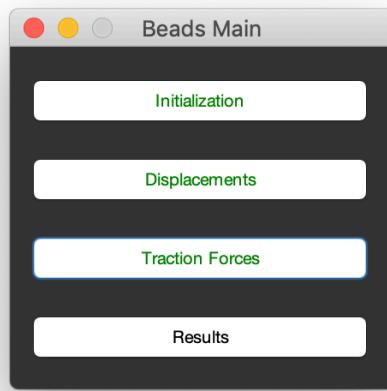
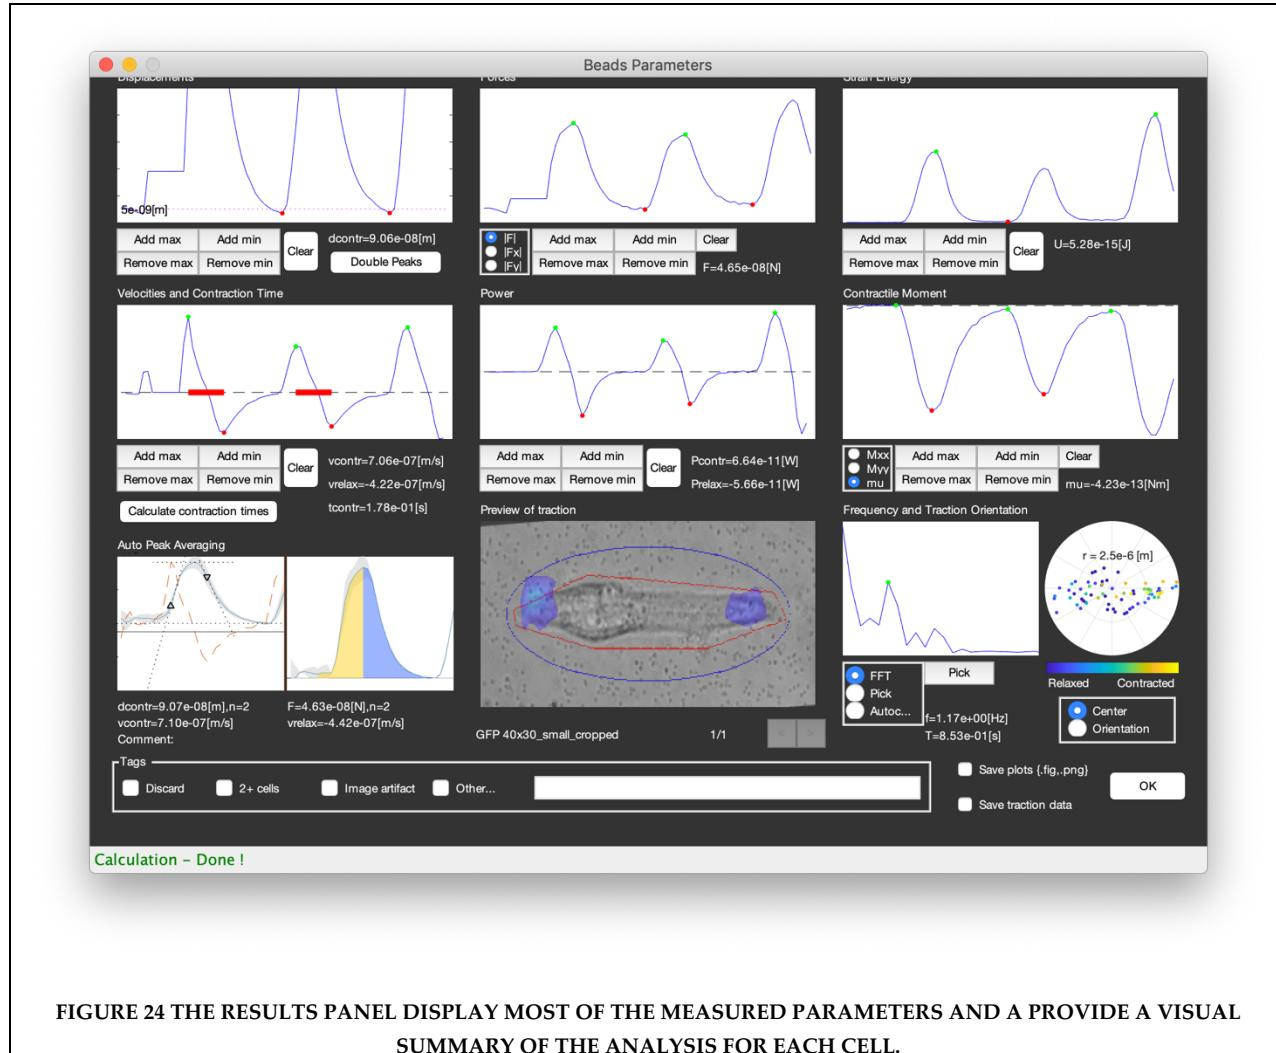

FIGURE 23 AFTER THE TRACTION FORCE STEP IS COMPLETED, THE RESULTS PANEL IS ENABLED.
FIGURE 24 THE RESULTS PANEL DISPLAY MOST OF THE MEASURED PARAMETERS AND PROVIDE A VISUAL SUMMARY OF THE ANALYSIS FOR EACH CELL.
1. In the main panel (Figure 23), launch the initialization panel by clicking on the *Initialization* button (Figure 24).